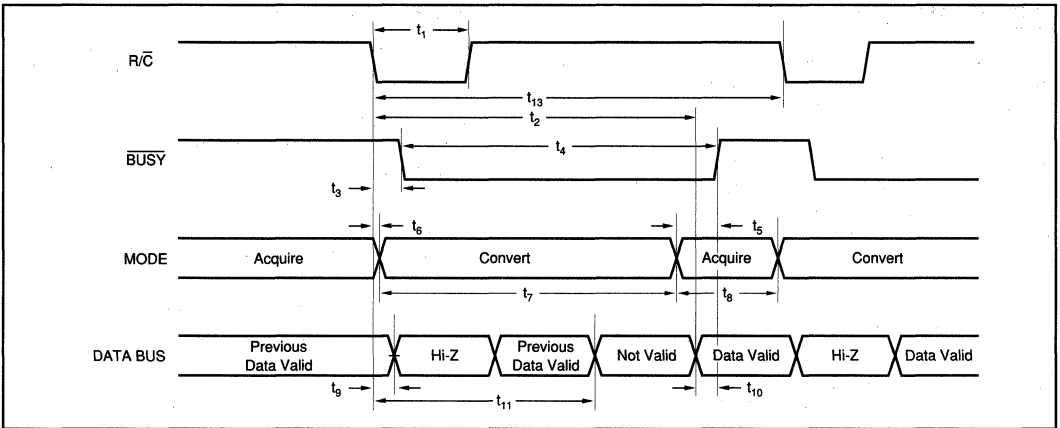

FIGURE 3. Conversion Timing with Outputs Enabled after Conversion (\overline{CS} Tied LOW.)
The ADS7821 will begin tracking the input signal at the end of the conversion. Allowing 10 μ s between convert commands assures accurate acquisition of a new signal. Refer to Table II for a summary of \overline{CS} , $\overline{R/\overline{C}}$, and \overline{BUSY} states and Figures 3 through 5 for timing diagrams.
NOTE: (1) See Figures 3 and 4 for constraints on data valid from conversion "n-1".
After conversion 'n' is completed and the output registers have been updated, \overline{BUSY} (pin 26) will go HIGH. Valid data from conversion 'n' will be available on D15-D0 (pin 6-13 and 15-22). \overline{BUSY} going HIGH can be used to latch the data. Refer to Table IV and Figures 3 and 5 for timing specifications.
After conversion 'n' has been initiated, valid data from conversion 'n-1' can be read and will be valid up to 5 μ s after the start of conversion 'n'. Do not attempt to read data from 5 μ s after the start of conversion 'n' until \overline{BUSY} (pin 26) goes HIGH; this may result in reading invalid data. Refer to Table IV and Figures 3 and 5 for timing specifications.
The number of control lines can be reduced by tying \bar{CS} LOW while using R/\bar{C} to initiate conversions and activate the output mode of the converter. See Figure 3.